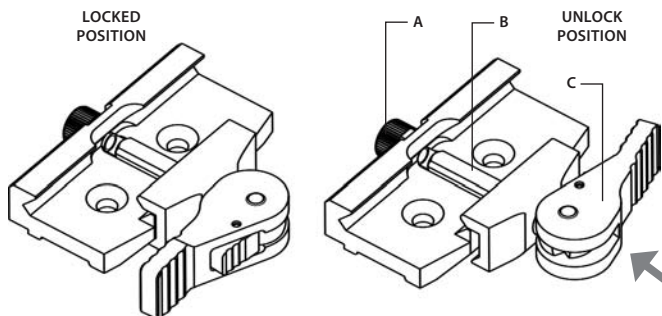

FIGURE 3-6. MOUNT. UNDERSIDE VIEW
4. Install the CO-MINI on the Picatinny/ Weaver rail in front of the day scope. The stop (B, Figure 3-6) should slide into one of the rail's transverse slots. The light suppressor should cover the day scope's objective lens.
Adjust the mount clamping device as follows (refer to Figure 3-6):